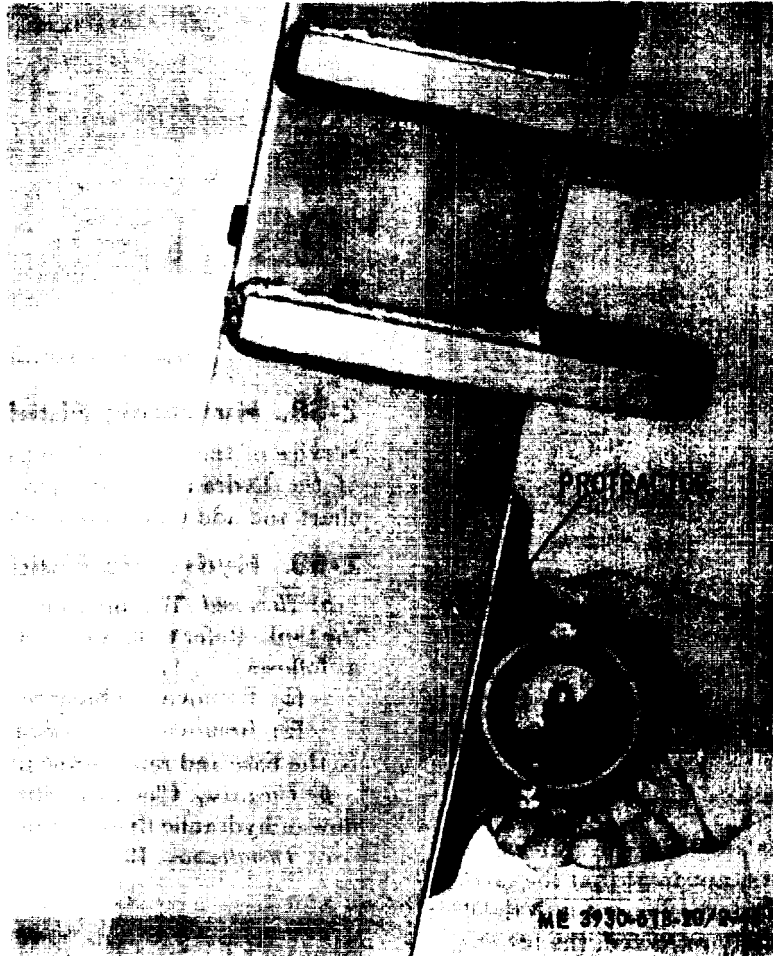

Figure 2-45. Checking mast tilt.
b. Set the protractor for 3° and place it on the back of the mast as shown in figure 2-45. The bubble in the level of the protractor will center if tilt is correct.